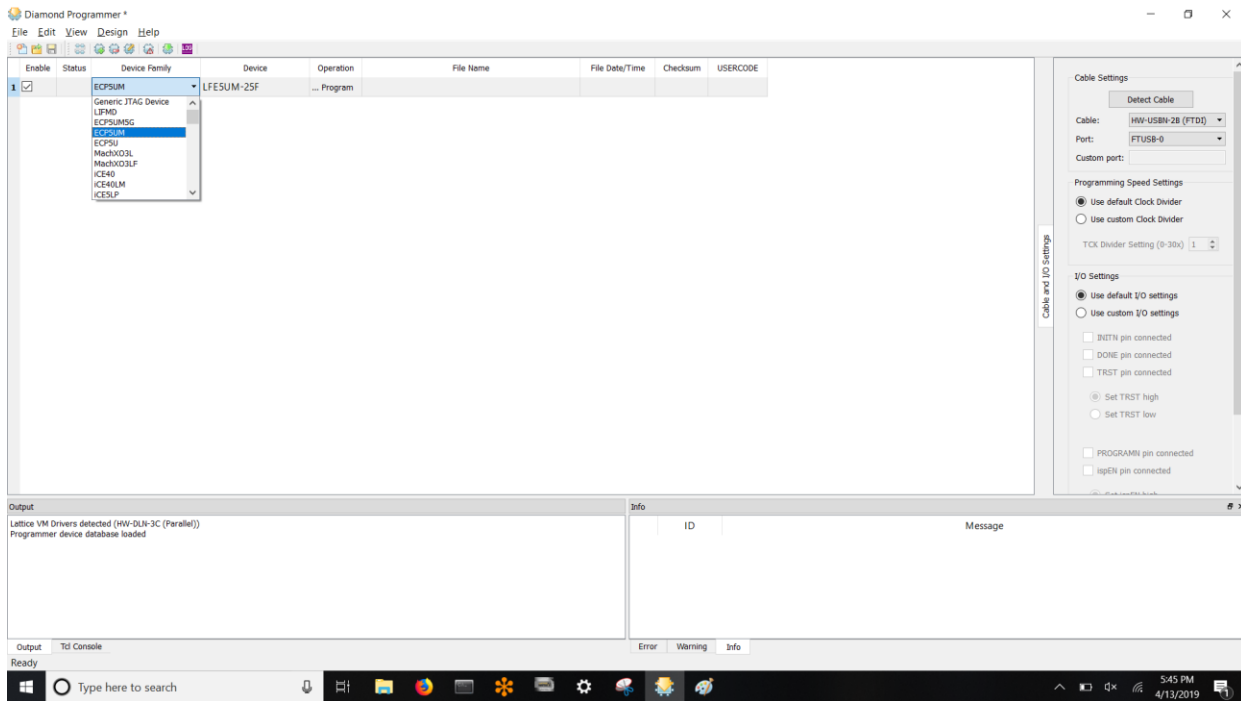

Figure 4.10. Diamond Programmer – Device Family Selection
3. In the Diamond Programmer main interface, select **ECP5UM** in Device Family and **LFE5UM-85F** in Device as shown in Figure 4.10.